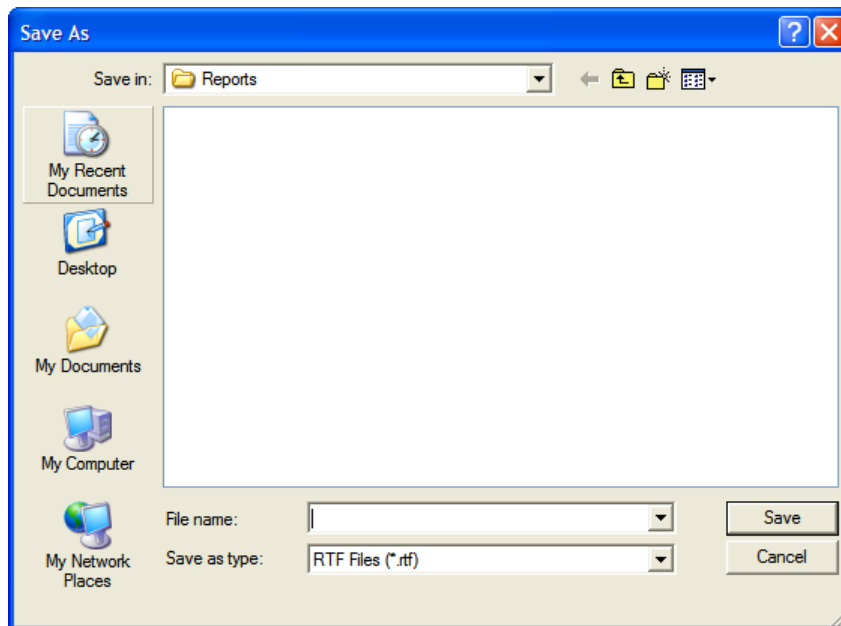

Figure 9-35
8. To save the displayed report or summary, click the **Save to File** button or press **Alt+S**. The Save As box appears as shown in Figure 9-35. Reports are saved as an RTF file in the Reports folder by default.